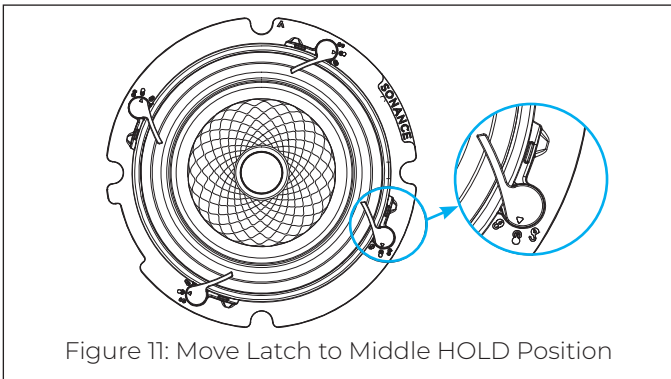

Figure 11: Move Latch to Middle HOLD Position
10. Use thumb pressure to rotate the VX speaker module Flex Frame latch into the middle HOLD position (see Figure 11).